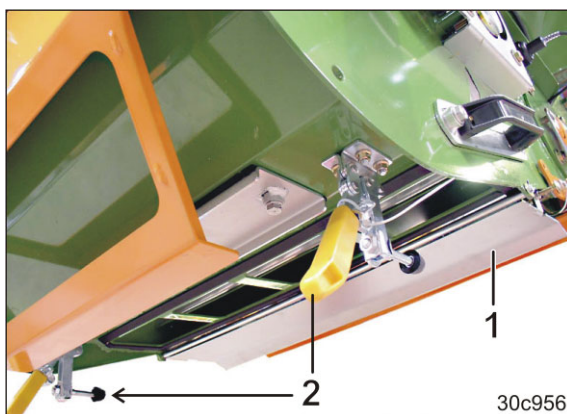

Fig. 255
2. Open the bottom flap (Fig. 255/1).
The bottom flap is secured with quick-release clamps (Fig. 255/2).